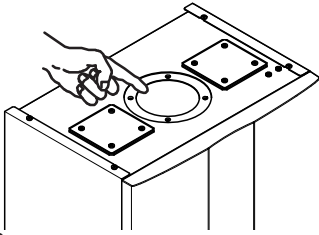

Fig. 7.3
**Fill the built in condensate trap by removing the flue elbow and pouring a cupful of water into the flue outlet (Fig. 7.3).**